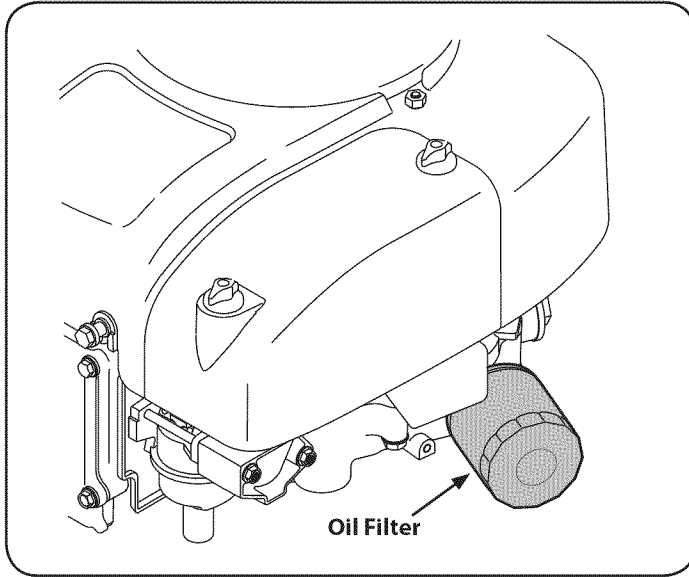

Figure 11
10. Remove the oil filter, see Figure 11, and dispose of it properly.